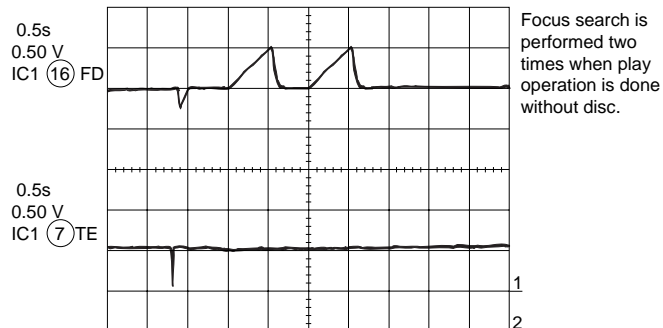

Figure 67-1
Does the output waveform of IC1 pin 16 (FD) match that shown in Figure 67-1?